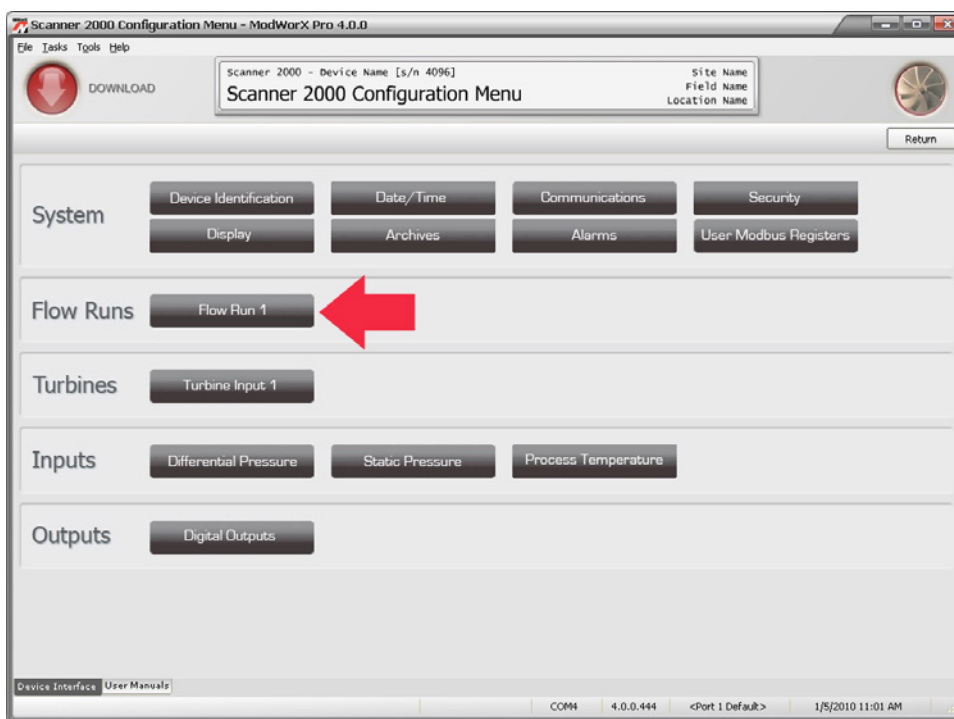

Figure 4.2
2. Then, click on **Flow Run 1** in the Configuration Menu screen (Figure 4.2).